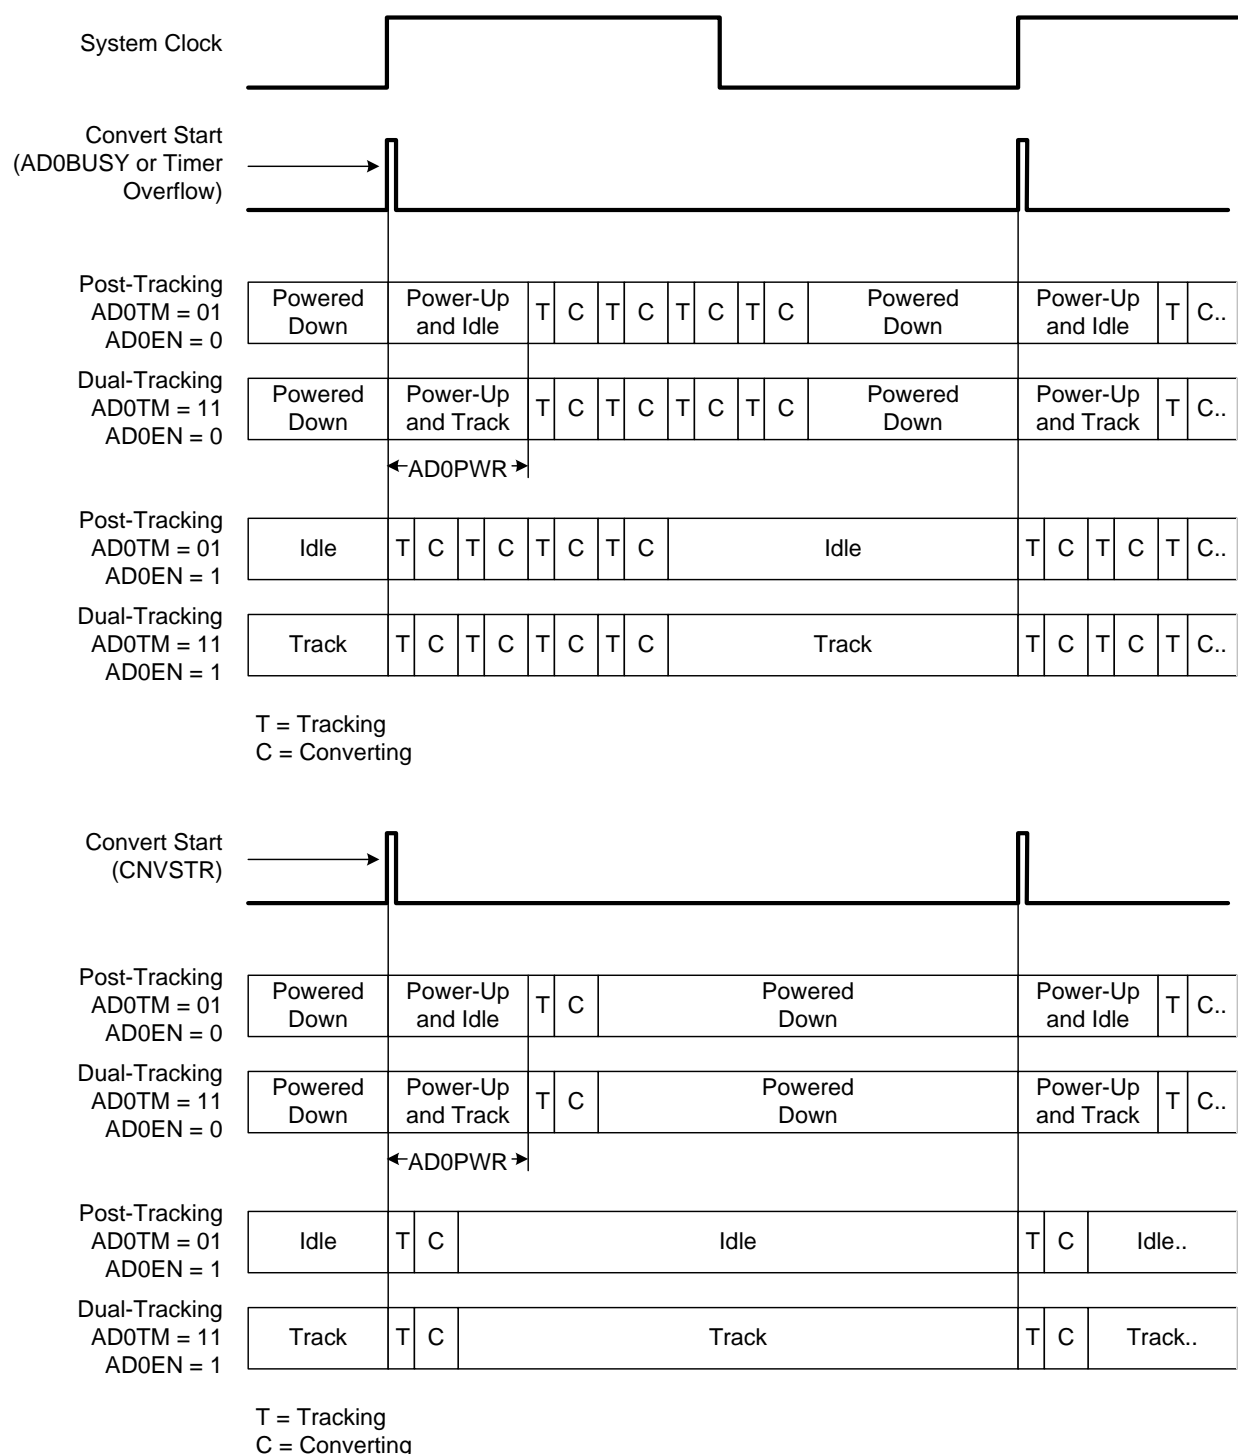

Figure 5.3. Burst Mode Tracking Example with Repeat Count Set to 4
Burst Mode is enabled by setting BURSTEN to logic 1. When in Burst Mode, AD0EN controls the ADC0 idle power state (i.e. the state ADC0 enters when not tracking or performing conversions). If AD0EN is set to logic 0, ADC0 is powered down after each burst. If AD0EN is set to logic 1, ADC0 remains enabled after each burst. On each convert start signal, ADC0 is awakened from its Idle Power State. If ADC0 is powered down, it will automatically power up and wait the programmable Power-Up Time controlled by the AD0PWR bits. Otherwise, ADC0 will start tracking and converting immediately. Figure 5.3 shows an example of Burst Mode Operation with a slow system clock and a repeat count of 4.
- A rising edge of external start-of-conversion (CNVSTR) will cause only one ADC conversion in Burst Mode, regardless of the value of the Repeat Count field. The end-of-conversion interrupt will occur after the number of conversions specified in Repeat Count have completed. In other words, if Repeat Count is set to 4, four pulses on CNVSTR will cause an ADC end-of-conversion interrupt. Refer to the bottom portion of Figure 5.3, “Burst Mode Tracking Example with Repeat Count Set to 4” for an example.